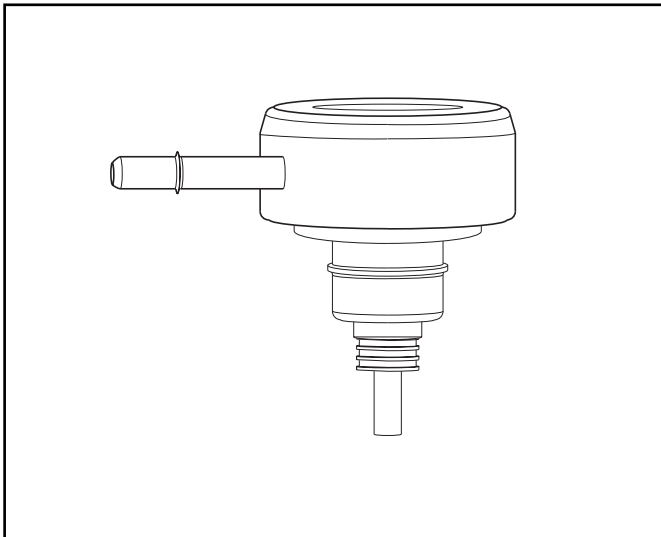

Figure 3-14 - In-Line Fuel Filter/Regulator (Typical)
1. Release injector clip by sliding off injector (Figure 3-14).
In-Line Fuel Filter (Pump-in-Tank)*Figure 3-14***Important**